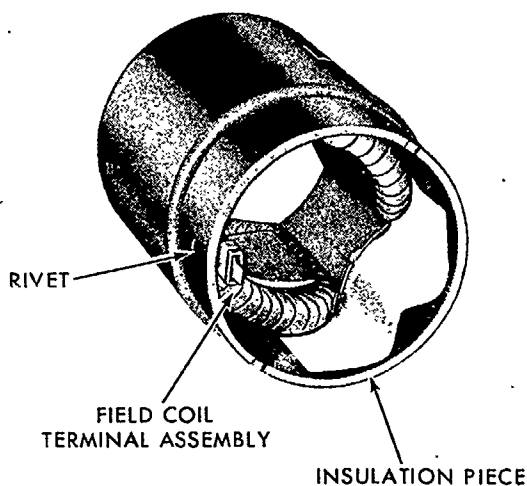

Figure 19
1. Drill out the rivet securing the field coil terminal assembly to the frame, Figure 19. Remove the terminal insulator and washer.
8. Secure the terminal assembly to the frame, Figure 19, with the screw and washer, tighten securely.
9. Install the field coil insulation piece, Figure 19.